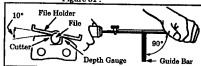

Figure 31
- a.) Position the file holder level as shown in Figure 31.